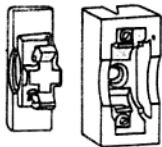

Fig. 2.20 Fuse kit-kat
**Fuses** A fuse is a safety device which is connected in series to the circuit and protects the appliance or apparatus from possible damage when abnormal current flows through it (Fig. 2.20).